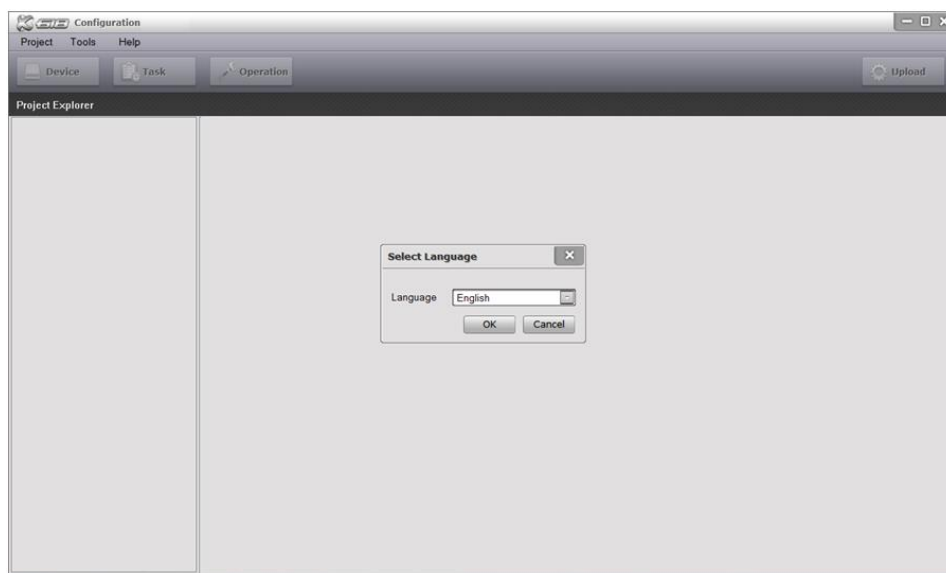

Figure 3 X-618 Config Software Initial Window
2. Select the menu commands *Tools* → *Select Language*, the *Select Language* window is displayed. The user can select the appropriate language. Click **OK**. The main window which is shown in English is displayed as shown in Figure 3.